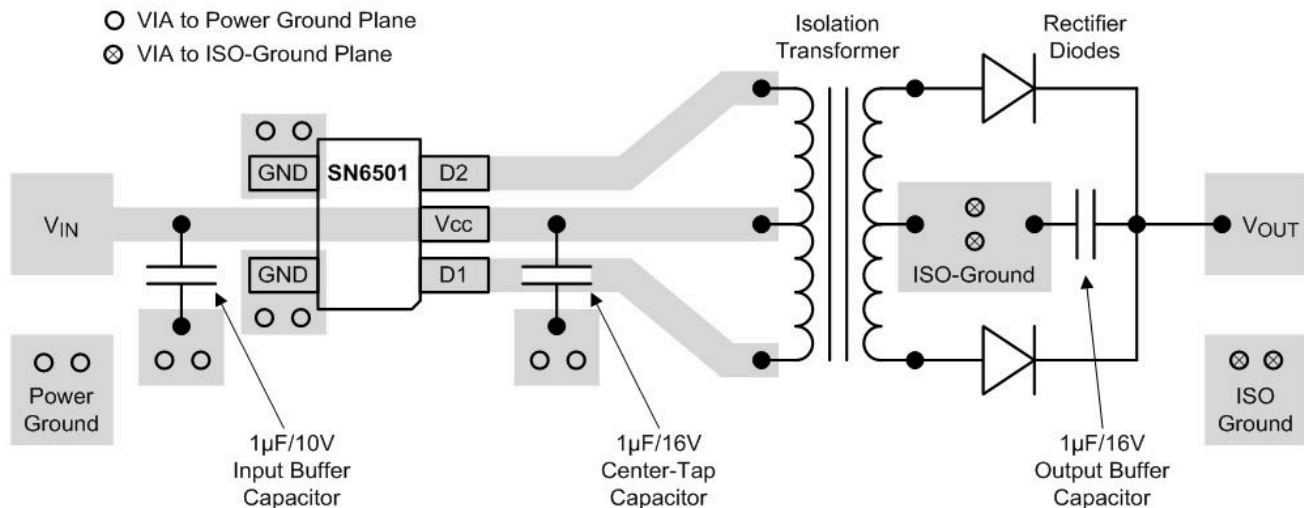

图 11-1. Layout Example of a 2-Layer Board (SN6501)
- The optimum placement is closest to the  $V_{IN}$  and GND pins at the board entrance to minimize the loop area formed by the bypass-capacitor connection, the  $V_{IN}$  terminal, and the GND pin. See Figure 11-1 for a PCB layout example.